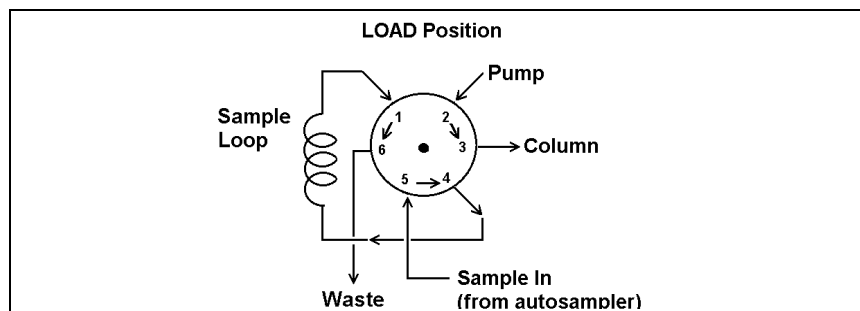

Figure 3-4. Loading Sample from an Autosampler (Rear-Loading Valve)
- The best way to load sample from an autosampler is to convert the standard front-loading Rheodyne valve to a rear-loading valve. A conversion kit (P/N 045595) is supplied with the AS40 Automated Sampler and is also available separately from Dionex. In the rear-loading valve, a three-groove rotor seal replaces the two-groove rotor seal with needle port used for syringe loading. Figure 3-4 shows the flow path for sample loading using a rear-loading valve.